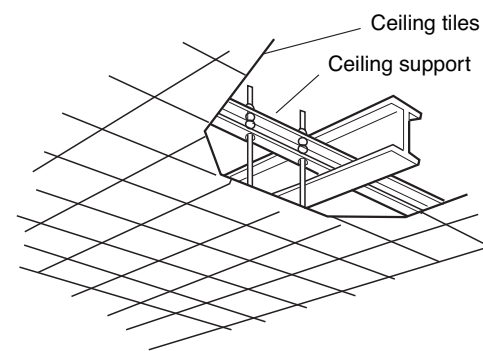

Fig. 3-94
- Use existing ceiling supports or construct a suitable support as shown in Fig. 3-94.